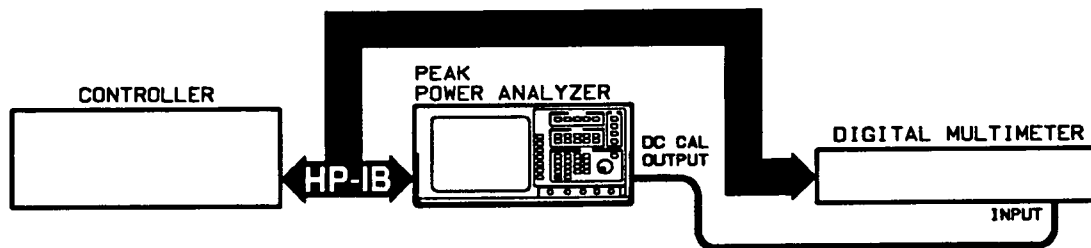

Figure 2-9. DAC Reference Adjustment Setup
4. Connect the Peak Power Analyzer and the test equipment as shown in figure 2-9 and described on the controller display after the "Select" softkey is pressed.